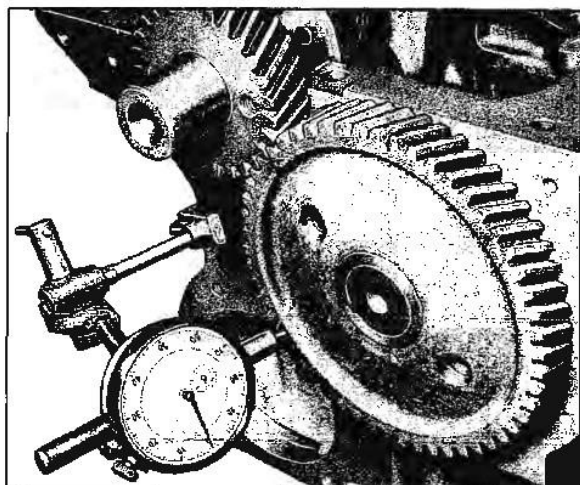

Fig. 6-44 Checking Camshaft Gear Runout
3. Check camshaft and crankshaft gear runout with a dial indicator (Fig. 6-44). The camshaft gear runout should not exceed .004" and the crankshaft gear runout should not exceed .003".